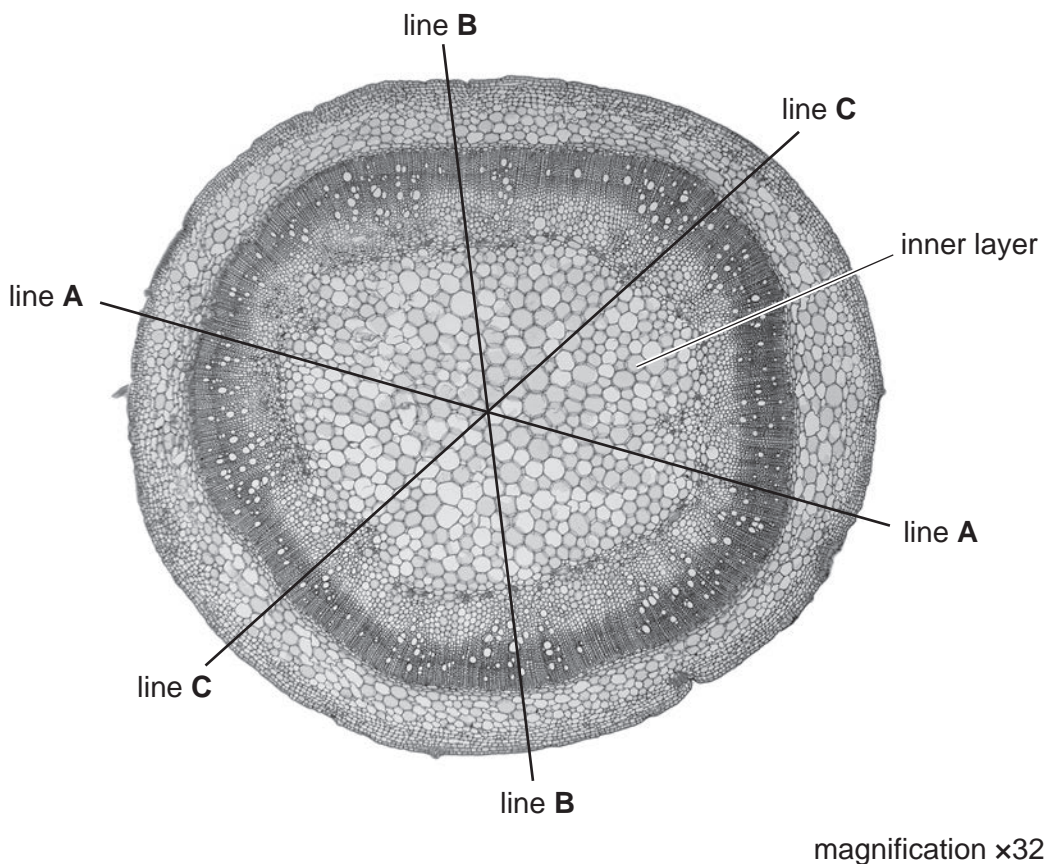
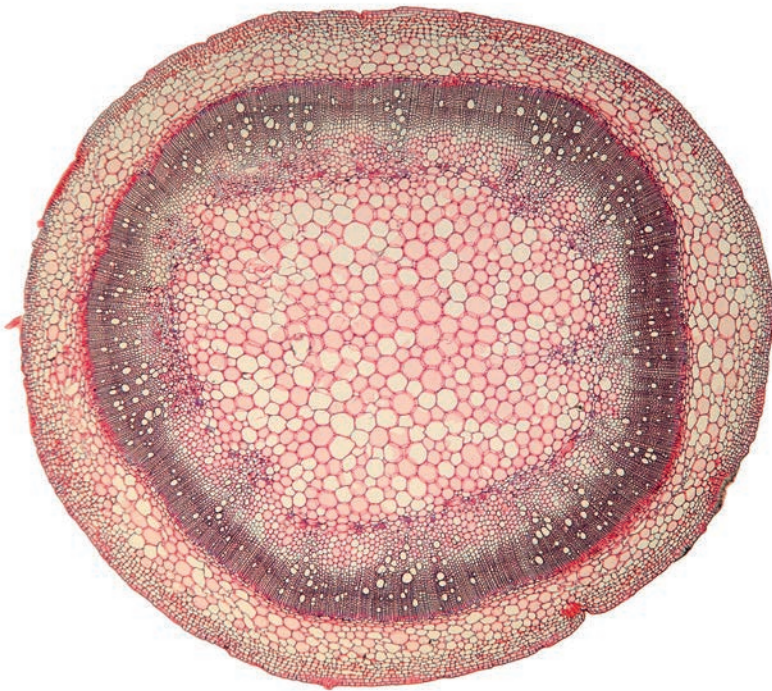

Fig. 2.2
Fig. 2.3
(b) Fig. 2.2 is a photomicrograph of a stained transverse section through a stem of a different type of plant.
(i) The magnification of the stem section in Fig. 2.2 is $\times 32$. Use line **A**, line **B** and line **C** to determine:
- (c) Fig. 2.3 is a photomicrograph of the same stem section that is in Fig. 2.2.
Identify the observable differences between the stem section in Fig. 2.3 and the stem section on L1.